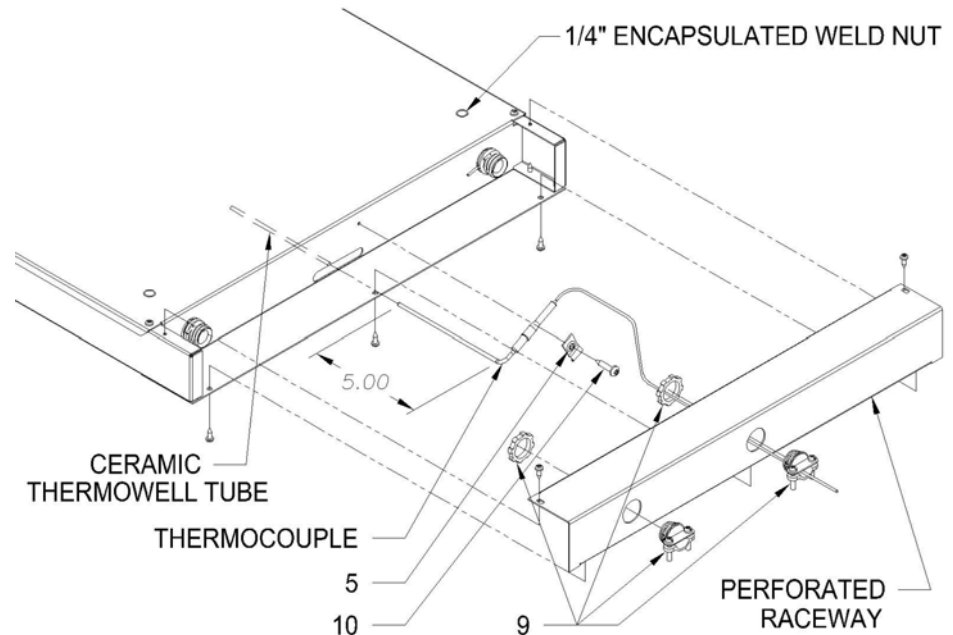

Figure 1
1. Remove & retain 5 screws and perforated raceway. Figure 1